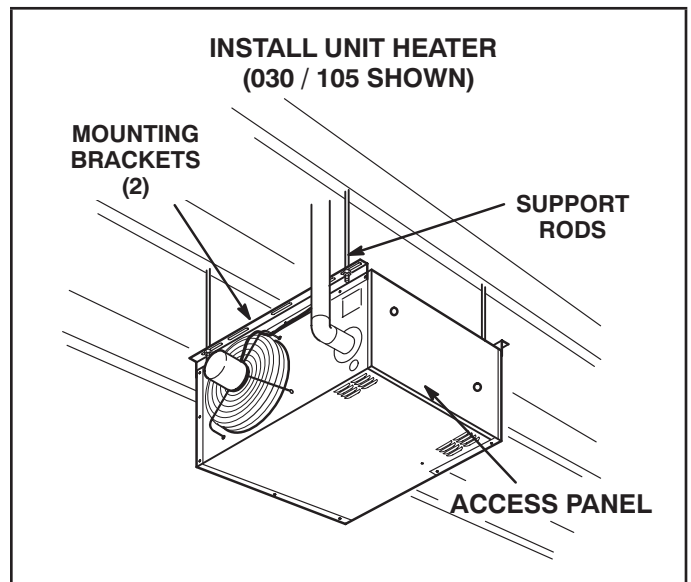

FIGURE 1
Unit may be installed as shown in figure 1 or rotated 180°.
- 6 - To support unit, secure mounting bracket to ceiling joist or truss. Unit may also be supported using support rods as shown in figure 1.